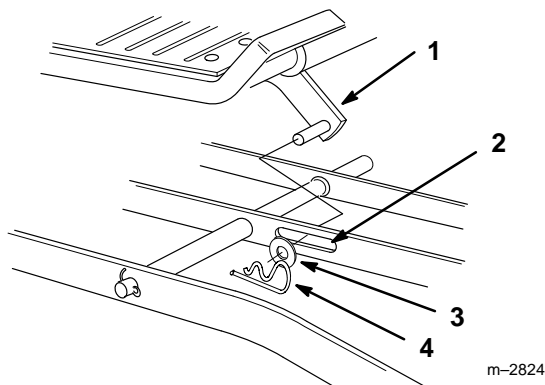

Figure 18
11. Remove hairpin cotter and washer from attachment lift pin from slot in center lever bar (Fig. 18).